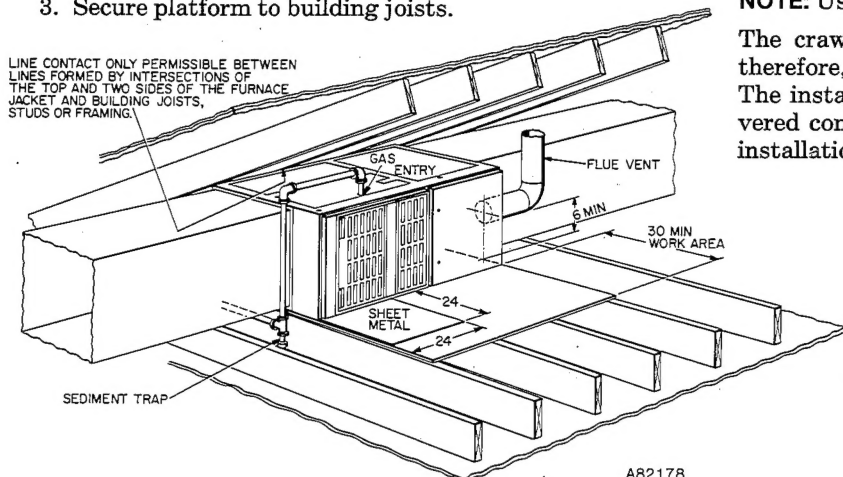

Figure 8—Typical Attic Installation
The 376B Furnace can be installed horizontally on either the LH or RH side. A typical attic installation is shown in Figure 8.
2. Connect gas supply pipe. See Figure 8 for typical piping entry. It is important to install a sediment trap in the gas pipe riser.
4. Install 24-x24-in. sheet metal shield on platform in front of louvered control panel, as shown in Figure 8.